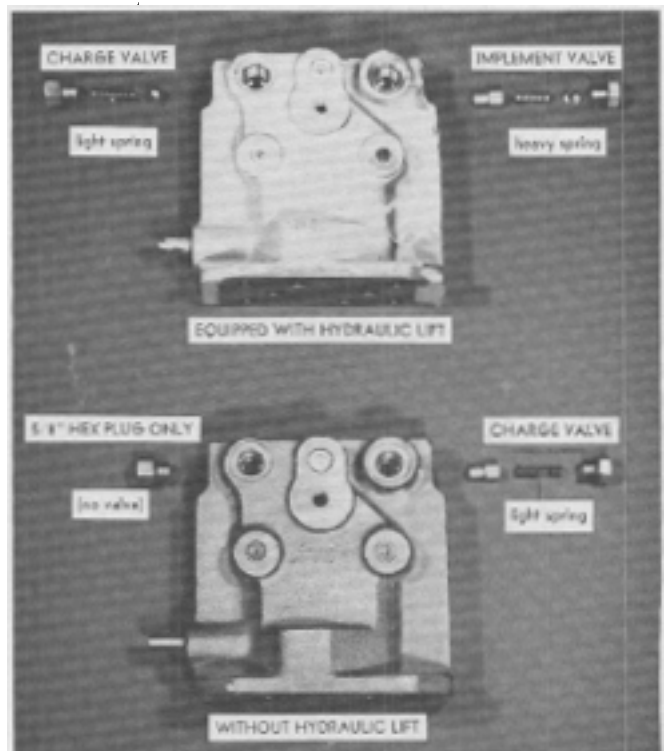

FIG. 51. Pump End Caps
8. Remove the $\frac{5}{8}$ " hex plug from the top left corner of the pump end cap. (Top left means viewed from the motor side of the end cap. See Fig. 51). If the unit is equipped for hydraulic lift operation, remove the charge ball valve and spring from the pump end cap (top view). If the unit is **not** equipped for hydraulic lift operation, there will be no spring and ball valve in this area (bottom view).